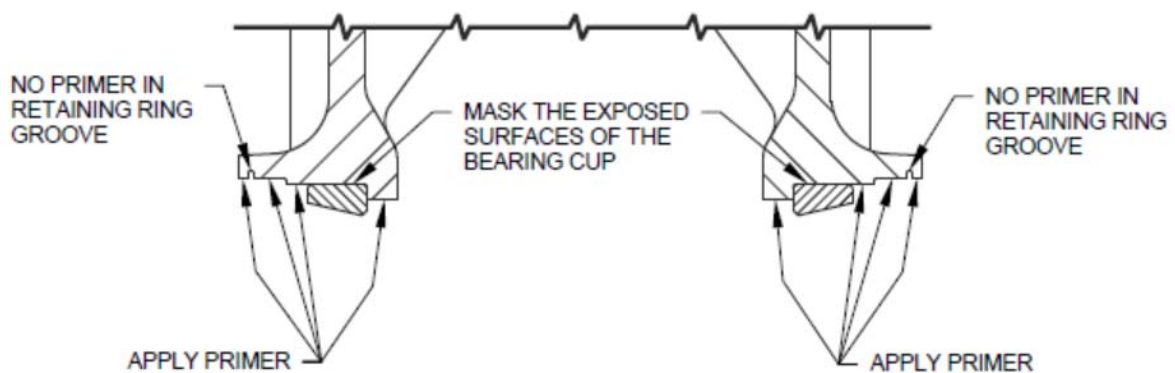

Figure 2 Prime the bearing bore surfaces
- (b) Brush a light, wet coat of MIL-PRF-23377, Type 1, Class C2 primer to the indicated surfaces in Figure 2.
- (g) Brush a light, wet coat of MIL-PRF-23377, Type 1, Class C2 primer to the indicated surfaces in Figure 2.